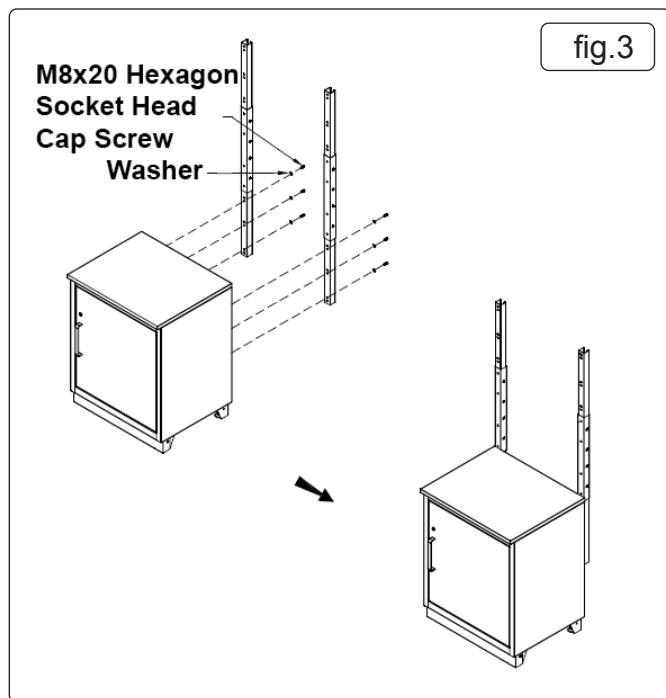

fig.3
- 4.3.2. Fit posts to rear of Floor Cabinets using 6x M8x20 hexagon socket head cap screws and washers (see fig.3).